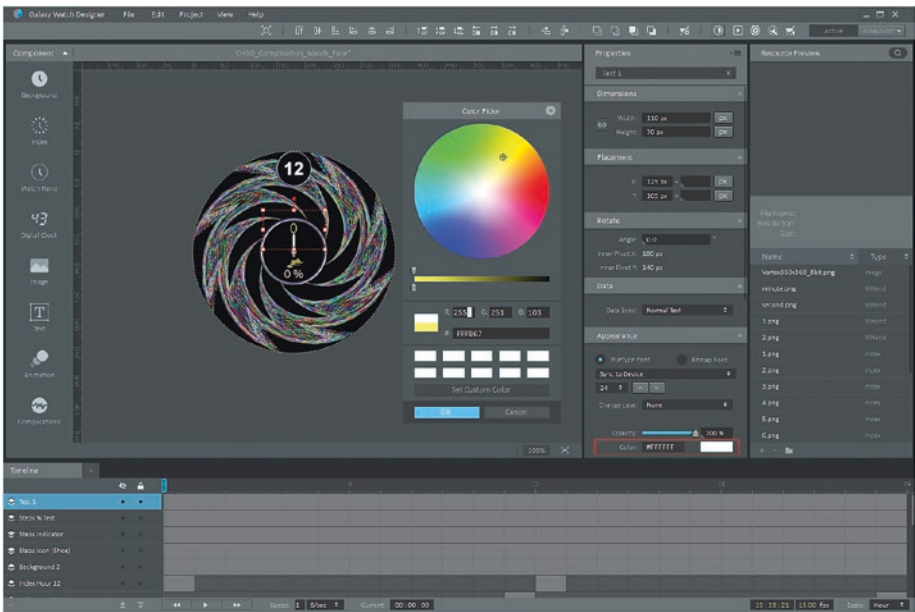

Figure 10-17. Click a Yellow area of the Color Picker to set the zero Text color
This places the Text asset at the top left of the watch face design at 0,0. Click this and type in a **Zero (0)** character, and then click and drag the zero Text asset into place, at the top center of the complication. If you look ahead to Figure 10-17, you can see what this should look like before we also color the zero a bright yellow, by using the Color Picker. In fact, let's do that next and learn how to use the **Color Picker Tool**.
Notice in Figure 10-17 that I have encircled the **Color Appearance** Properties section, which has a **hexadecimal** representation, which you will text edit to specify precise color values, as well as the rectangular, clickable, **color swatch**, which you can click to open a Color Picker.
Let's do that now, and click the rectangular (it's initially white) color swatch, and open the **Color Picker** dialog, shown in the middle of Figure 10-17. Click the bright yellow area between green and red, so you can visually set the yellow **#FFFB67** color value you clicked. The Color Picker is a much loved tool because it allows you to set values for coding visually, as many would not be able to come up with a **#FFFB67** value to get this yellow-gold color, without using this Color Picker Tool.